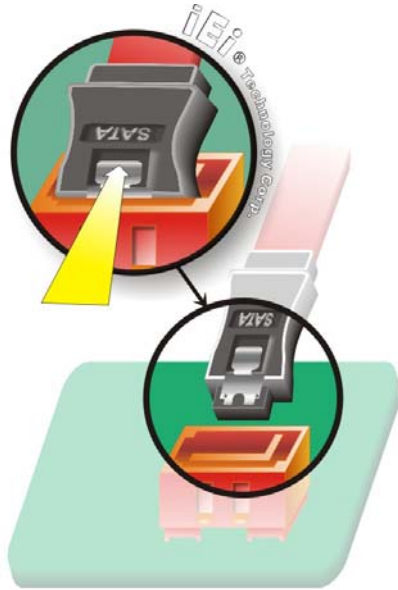

Figure 4-12: SATA Drive Cable Connection
Step 2: **Insert the cable connector.** Press the clip on the connector at the end of the SATA cable and insert the cable connector into the on-board SATA drive connector. See **Figure 4-12**.